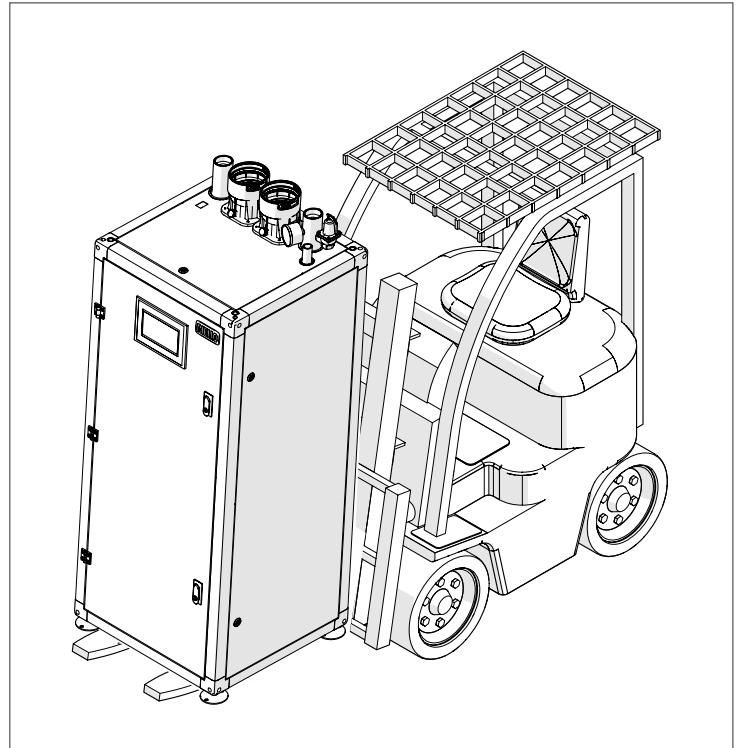

Fig. 13 Forklift Handling
**⚠ WARNING:** When lifting or moving the boiler with a forklift: make sure the forks are longer than the boiler size (width or depth) so that the lifting forks stick out as Fig. 13.